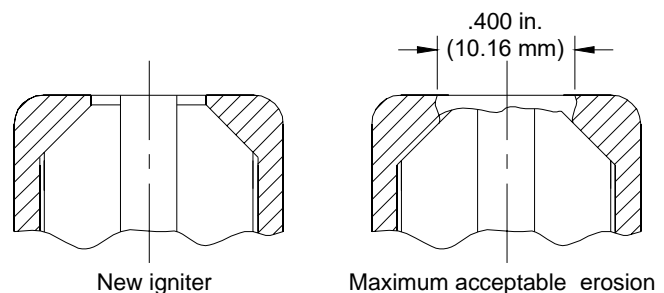

Figure 3. Igniter wear limits
- (1) Examine semiconductor (between center and ground outer electrode) to make sure it is intact and secure. Reject igniter if semiconductor is missing or loose within igniter. Shaking igniter may reveal a loose semiconductor.
- (2) Inspect firing tip for erosion to determine if gap is within serviceable limits (See Figure 3). Use calipers or gap gage to measure ground shell ID. If limits are exceeded, discard igniter. Limits are: